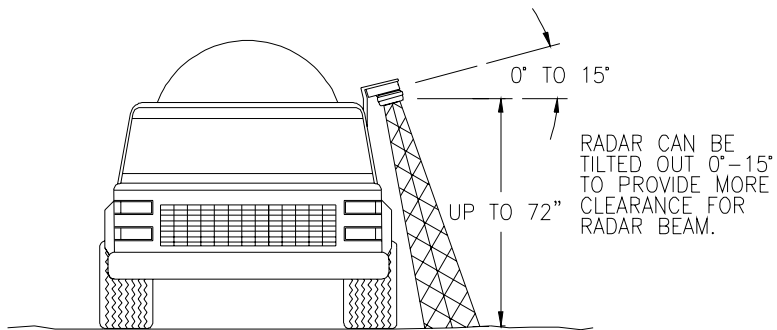

FIGURE 3
- b) The radar lens must be parallel to the ground from front to back. Radar can be tilted out 0-15 degrees to provide more clearance and miss obstructions. See Figure 3.